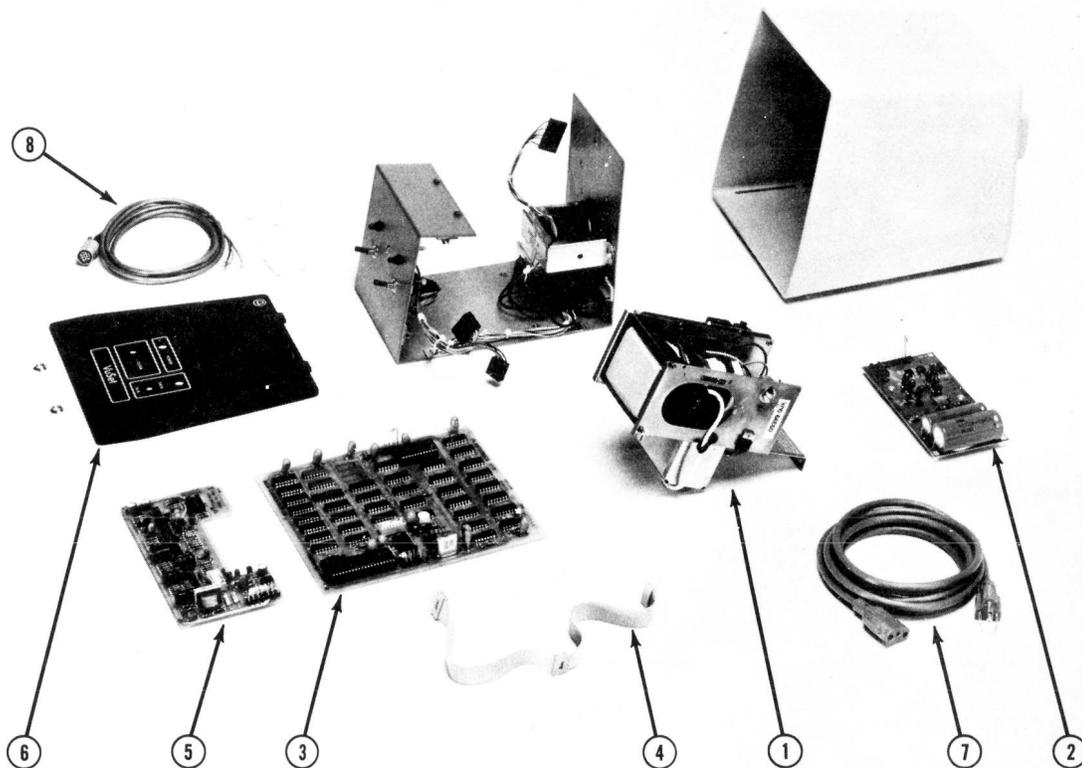

Figure 10, Disassembled Terminal
2.01 Figure 10 is a pictorial description of the replaceable subassemblies. The following table indicates the Plantronics part number, description and reference number of Figure 10 for these subassemblies: